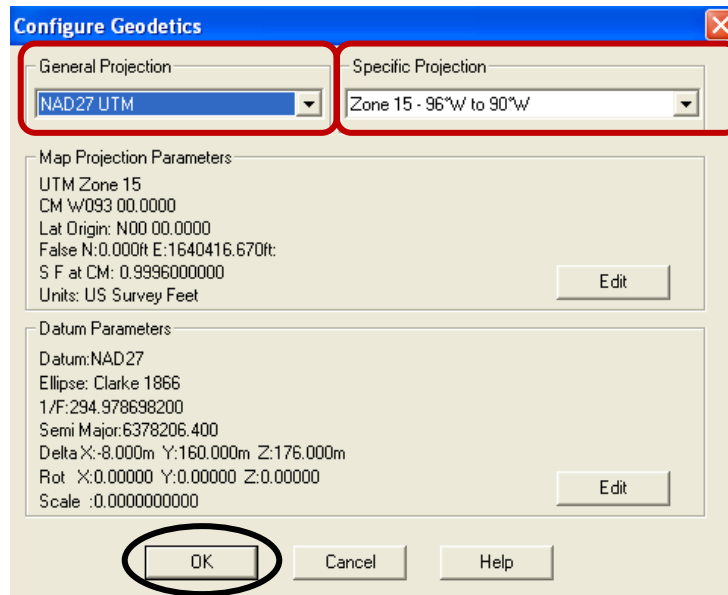

Figure 17
4.10 Select “CONFIG” and verify the General and Specific Projection Parameters are set per Job Requirements. **NOTE: See Figure 17 As Example Only.**